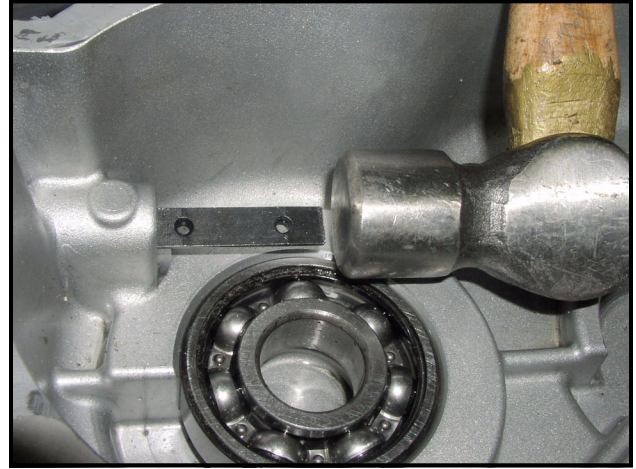

Figure 8-11 Ground Speed Governor Shaft
9. Remove the ground speed governor shaft and seal from the case by tapping gently with a small hammer from inside the case (**Figure 8-11, Page 8-5**). See following **CAUTION**.